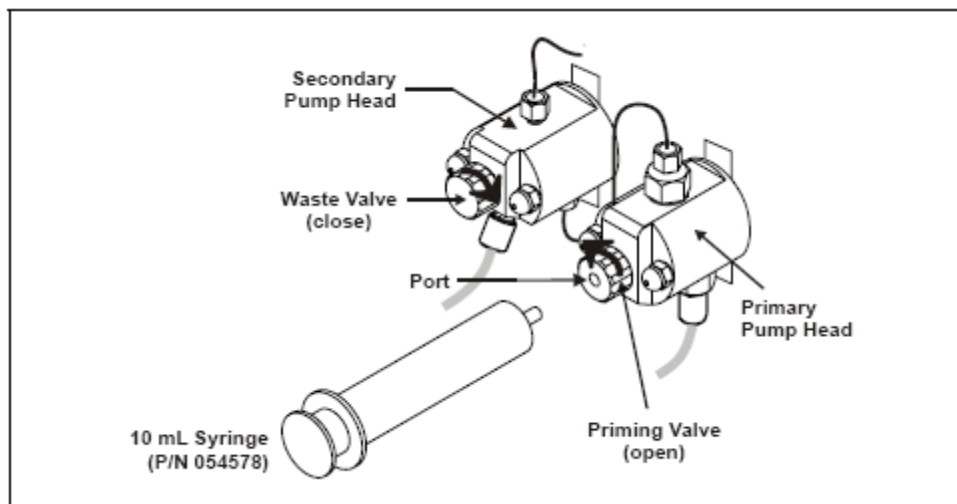

Figure 6. Priming the Eluent Lines
- d. Remove the front panel from the instrument. Connect a 10 mL syringe to the port in the priming valve on the primary pump head. See Figure 6 below.
- e. Open the priming valve by turning it one-quarter to one-half turn counterclockwise. Refer to Figure 6.